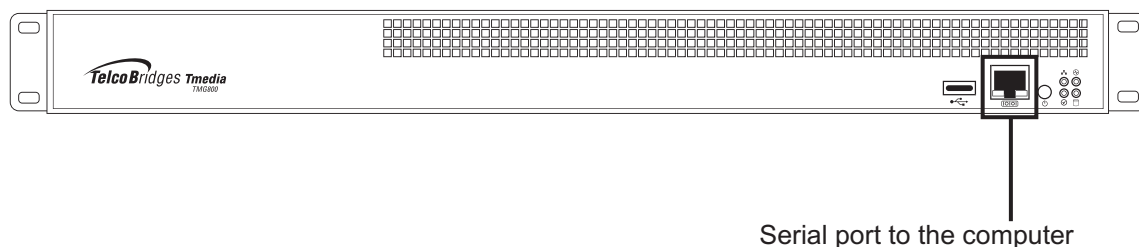

Figure 3.1 Computer to Tmedia VoIP Gateway Serial Port Connection
1. Connect one end of a CAT5 RJ-45 (male-male) cable to the DB-9 to RJ-45 adapter (both supplied with unit). Connect the DB-9 to RJ-45 to your computer serial port and the other end of the CAT5 RJ-45 (male-male) cable to the Tmedia serial port (labelled 10101) of the Tmedia VoIP Gateway as shown in figure 3.1 on page 42. See Section A.2 “RJ48 Console Wiring Diagram” on page 93 for a RJ-45 pinout description.